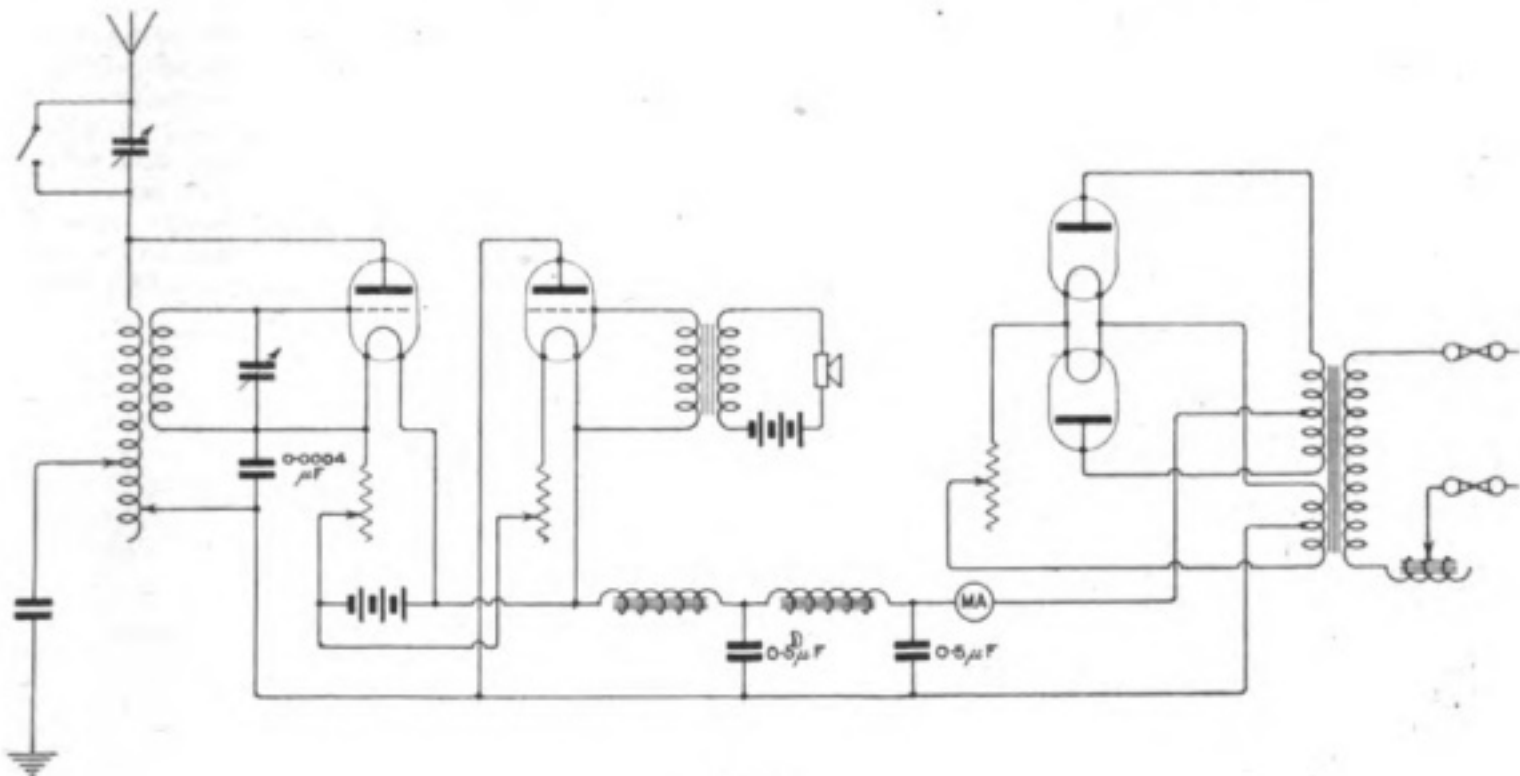

Fig. 3.
(1) and (2) The most suitable telephony transmitting circuit is that embodying "choke control" and a suitable circuit is given in Fig. 3, making use of step-up transformer and rectifying valves for providing plate current. The system of quiescent modulation is not always to be recommended, and usually functions by some arrangement of grid potential control. (3) Yes: this can be done, but necessitates the use of high tension condensers of very large capacity for the purpose of smoothing out the ripple. A rectified plate current of about 1,000 to 1,400 volts should be aimed at in designing the transformer. (4) (a) T.15 to T.50. (b) U1.
(1) and (2) For diagram see Fig. 3, page 537, July 22nd issue. (3) If your house is at the high end of your aerial the addition of a mast on the roof will considerably improve signals. If, however, your house is at the low end the improvement will hardly be worth while.